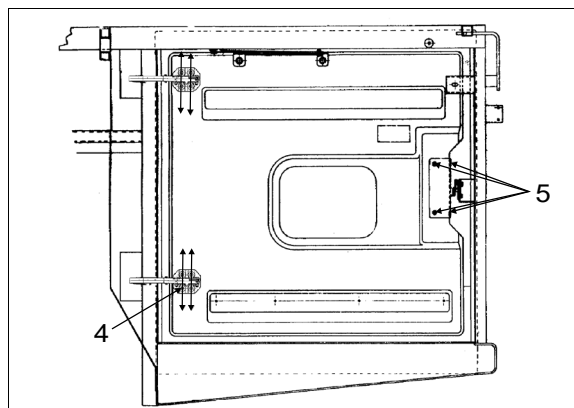

FIGURE 75: ENGINE COMPARTMENT R.H. DOOR
8. Loosen screws (4, Figure 75).